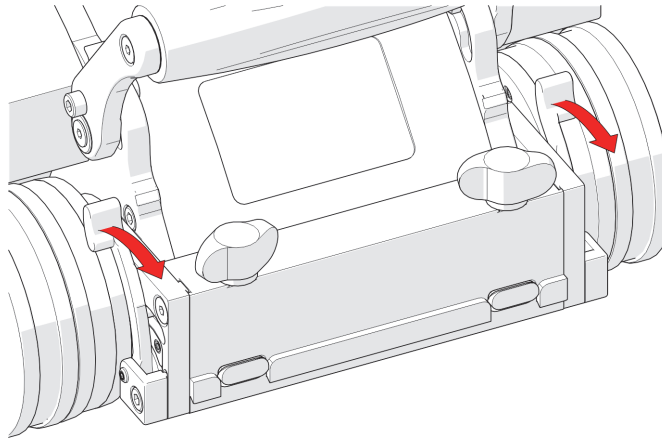

Figure 4-12 Front swivel adjustment levers
2. Release the front swivel adjustment levers, located at the front of the crawler, to position the front swivel mount (see Figure 4-12 on page 147).